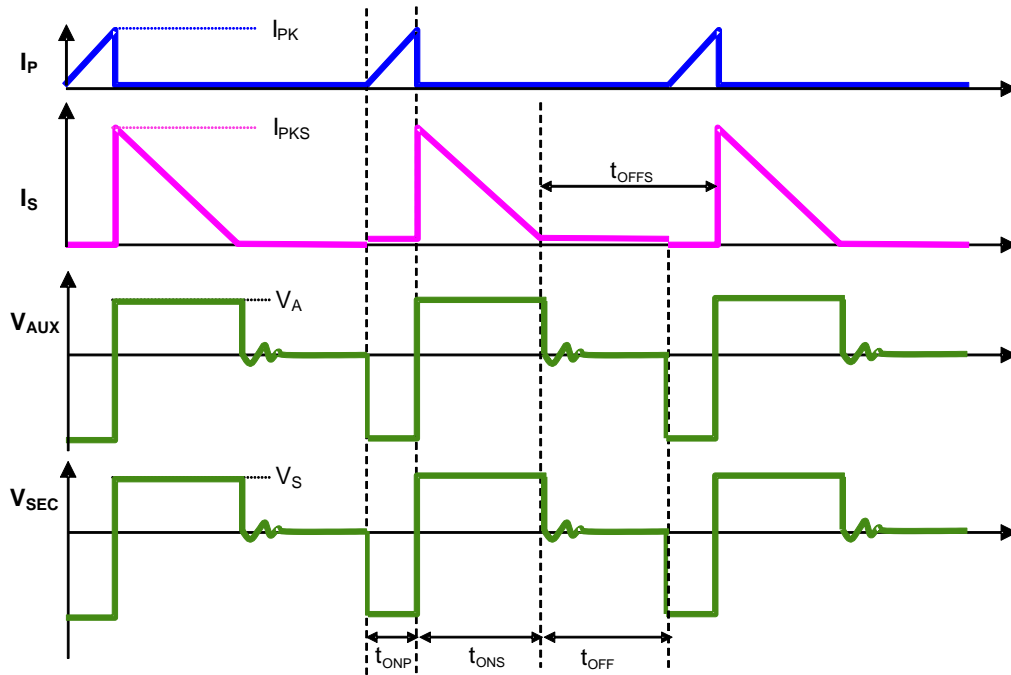

Figure 2. The Operation Waveform of Flyback PSR System
As illustrated in Figure 2, when the current  $i_p(t)$  rises up to  $I_{PK}$ , the switch Q1 turns off. The constant peak current is given by:
The AP3776B can work in constant-current (CC) mode. Figure 2 shows the secondary current waveforms.